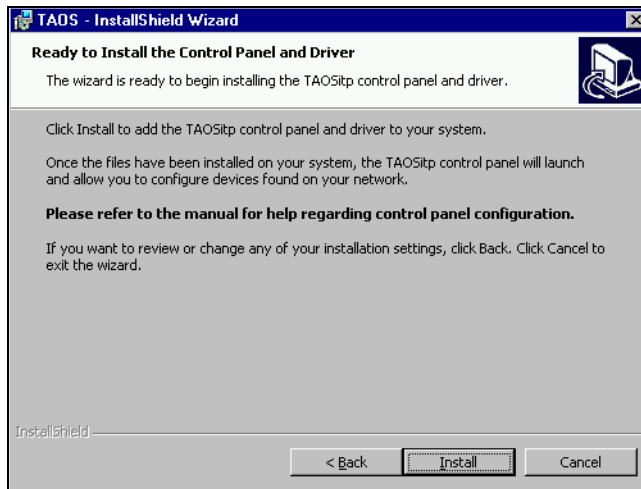

Figure 7-9 *The Install the Control Panel and Driver Window, click Install.*
6. Click **Install** to install the TAOS ITP control panel and driver. Click **Back** to review or change installation settings (Figure 7-9).